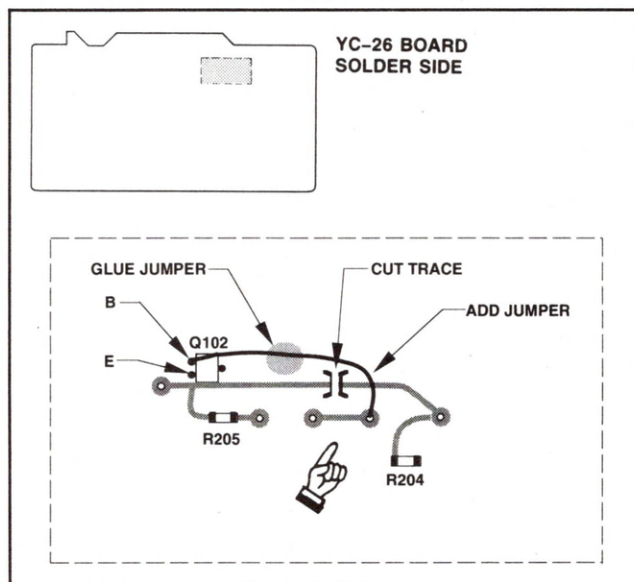

Figure 2
Solder Side (See Figure 2.)
1. Cut trace at location shown in Figure 2.